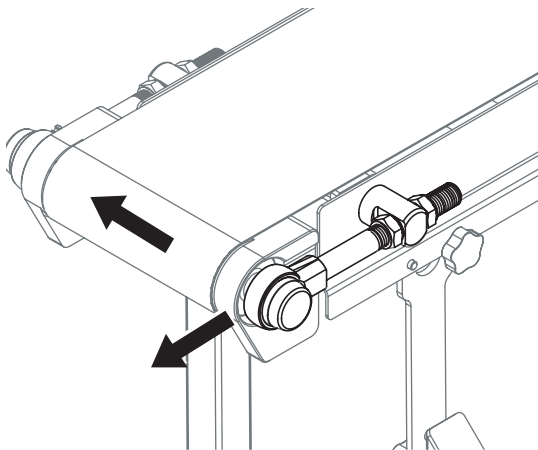

Figure 56
- b. Tighten the nut to increase the length of the idler tail shaft and move the belt away from that side of the conveyor (**Figure 56**).